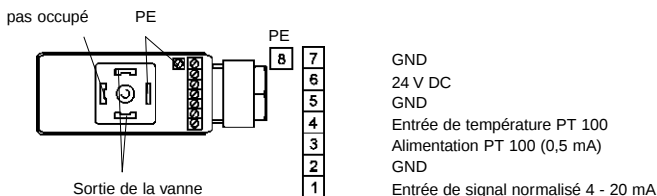

Figure 2: Raccordement
- Raccordez le câble (figure 2).